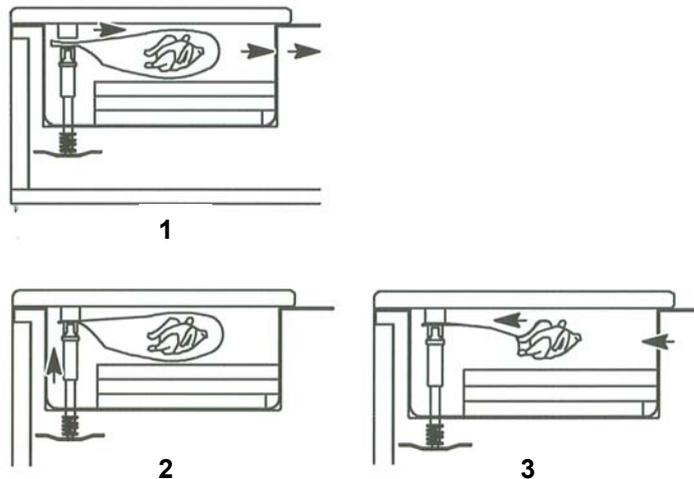

Fig. 2
- Push the main switch ON/OFF (A).
- Position the bag, with relative product to be vacuum packed, as per fig. 2.
- In case you want to interrupt the cycle without sealing, it is necessary to push the main switch ON/OFF (A).
- In case you want to vacuum pack the product with a lower vacuum degree and seal the bag, it is necessary to push the button STOP (C) and wait for a few seconds until the cover lifts up.